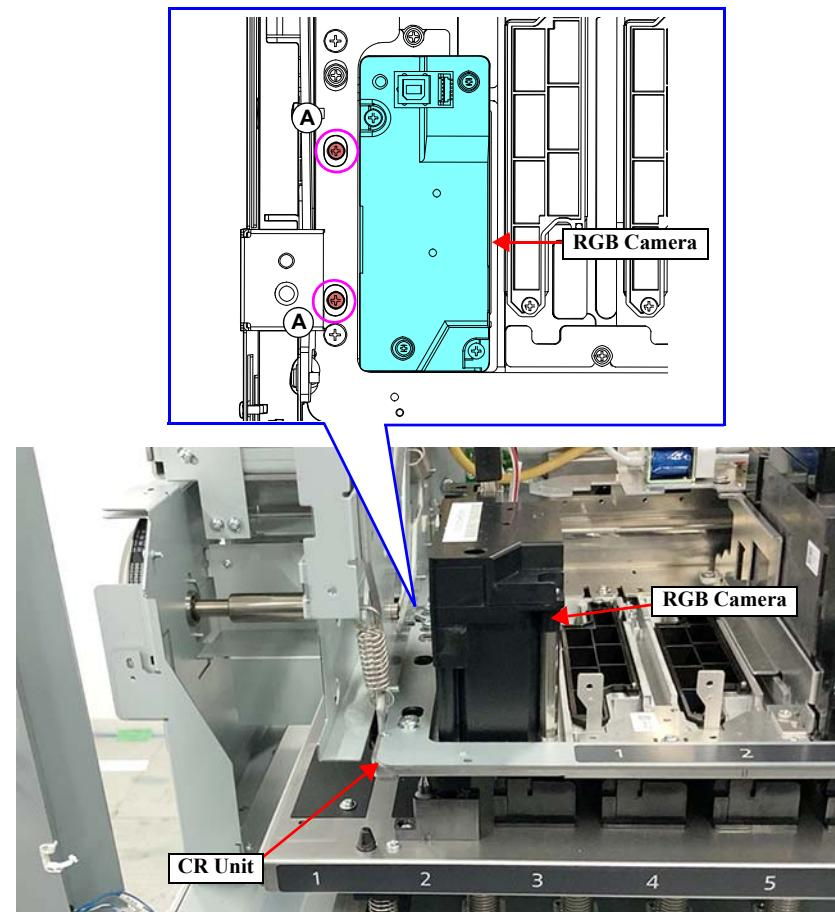

Figure 3-306.
3. Move the CR Unit to the position shown in Figure 3-306.